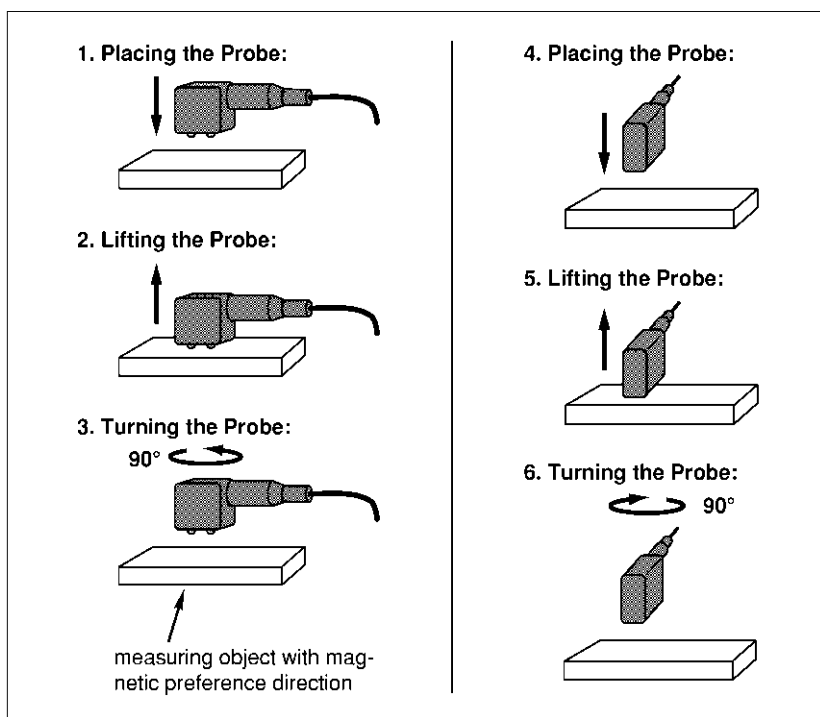

Figure 5.4: Measurement with Double Tip Probes
- ☞ We recommend to measure coatings of measuring objects with substrate materials having a magnetic preference direction by storing the mean value of two measurements instead of the single measurements. The probe has to be turned by 90° after the first measurement (see figure 5.4). Magnetic preference direction can result from mechanical pretreatment of the measuring object (for instance, rolling or drawing of sheet metal).